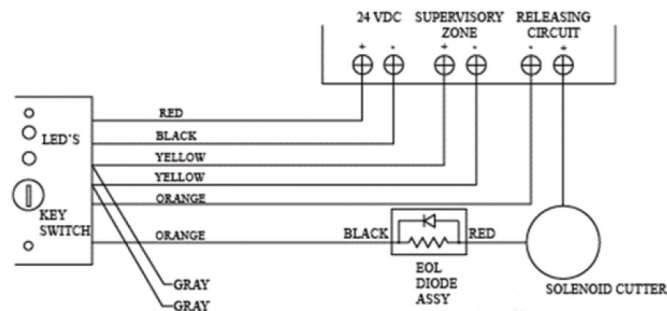

Figure 4.16. Wiring diagram for connecting the solenoid cutter with releasing circuit disable switch (Model No.: RCDS-1 from Potter)
- 2.3 Make all wiring connections in accordance with NFPA 72 National Fire Alarm and Signaling Code. For supervision when the solenoid cutter is removed or electrical wiring is disconnected during service/maintenance, use of UL listed releasing device disable switch shall be installed accordingly. It is recommended that the releasing device disable switch be installed such that it is in visual site from the actuation box. American AFC also recommends the use of releasing circuit disable switch model RCDS-1 from Potter (UL File No. S293). Refer to Figure 4.16 for the wiring diagram.